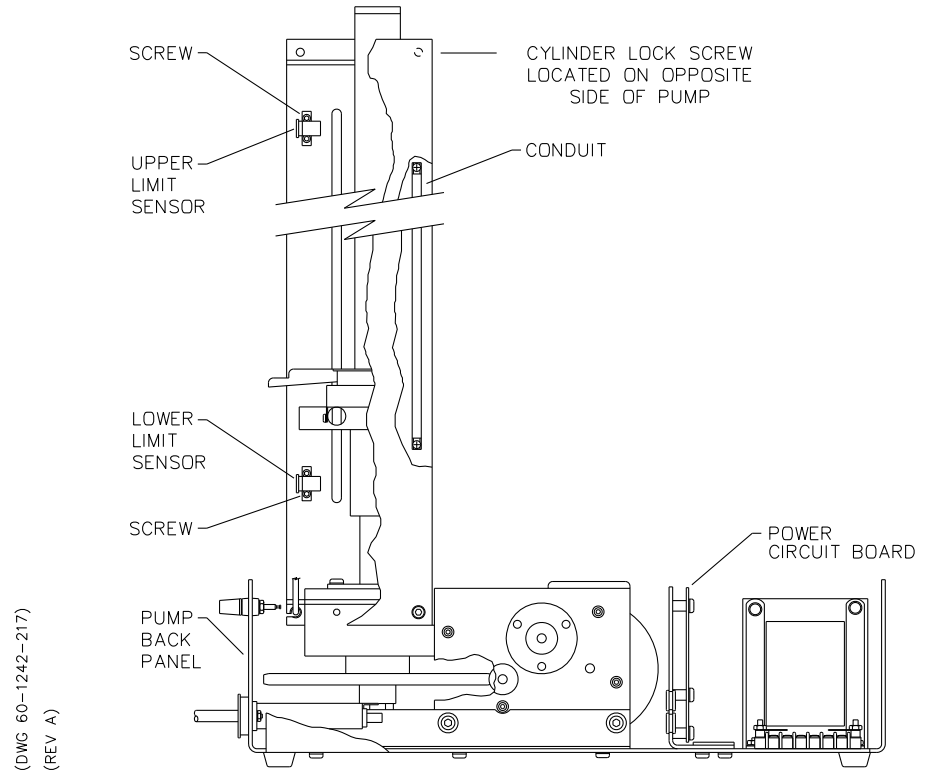

Figure 9-38 *Limit sensor replacement*
5. The limit sensor assembly includes two limit sensors, the wire harness and connector, and a conduit which protects the wires running between the sensors, Figure 9-38.